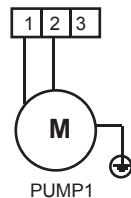

Fig.6-10
- Using the appropriate cable, connected the pump cable to the terminals as shown in Fig.6-10.